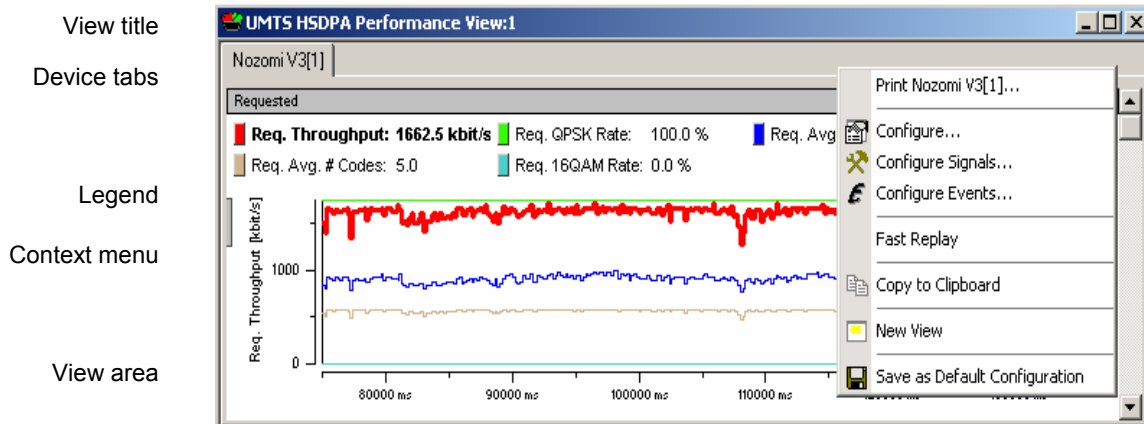

Fig. 4-1 General view properties
*New View...* Opens an additional view of the same type. A practically unlimited number of views can be opened at the same time. Views of the same type are distinguished by the current number in the title bar (e.g. the 1 in Fig. 4-1) indicating the order in which they have been created.